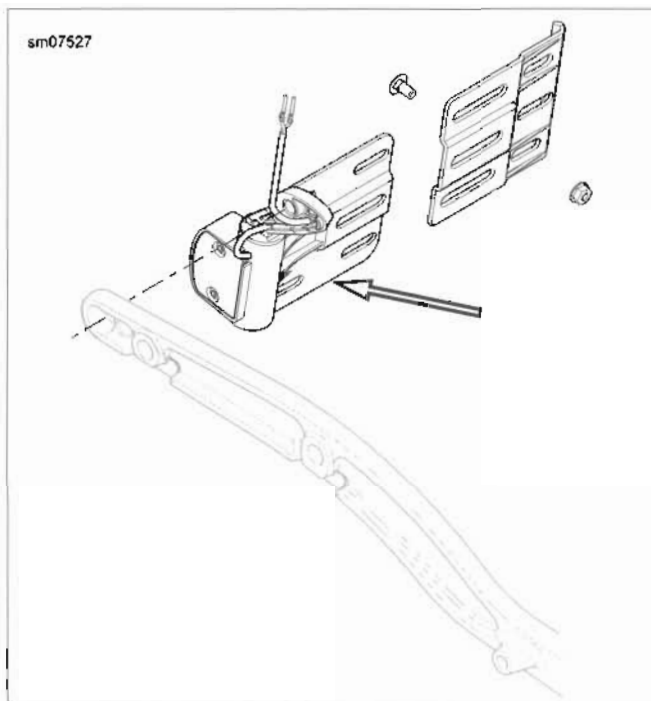

Figure 7-62. License Plate Bracket (Domestic and California Models)
5. See Figure 7-62. If equipped with side mount license plate bracket, separate turn signal from license plate bracket.